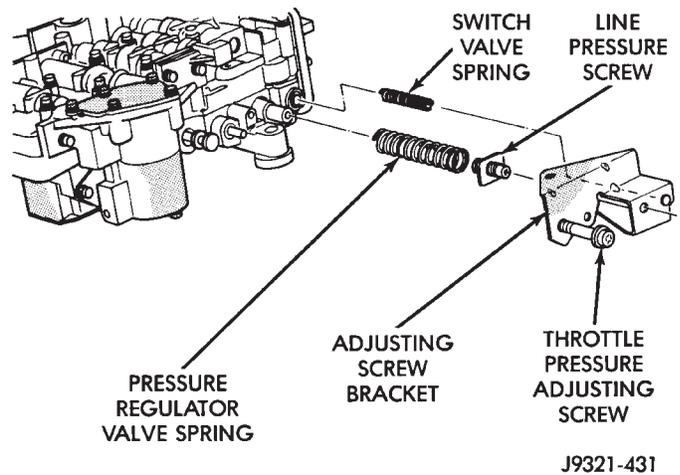

Fig. 77 Adjusting Screw Bracket And Spring
(20) Remove adjusting screw bracket, line pressure adjusting screw, pressure regulator valve spring and switch valve spring (Fig. 77). **Do not remove throttle pressure adjusting screw from bracket and do not disturb setting of either adjusting screw during removal.**